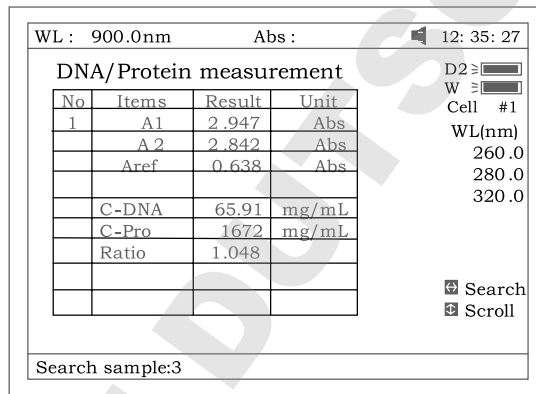

Fig 65
7. Press the key **<** or **>** for searching. Input the sample number (Fig 65), the result will be displayed on the screen. Press the key **^** or **v** to browse the test results one by one.